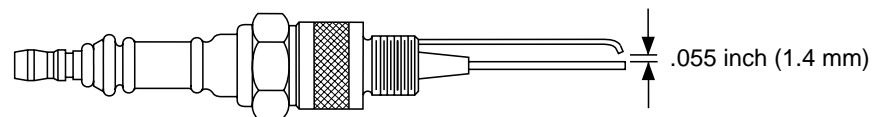

Figure 8 - Spark Plug Gap
5. Clean and regap spark plug electrodes to .055 inch (1.4 mm) (see Figure 8).